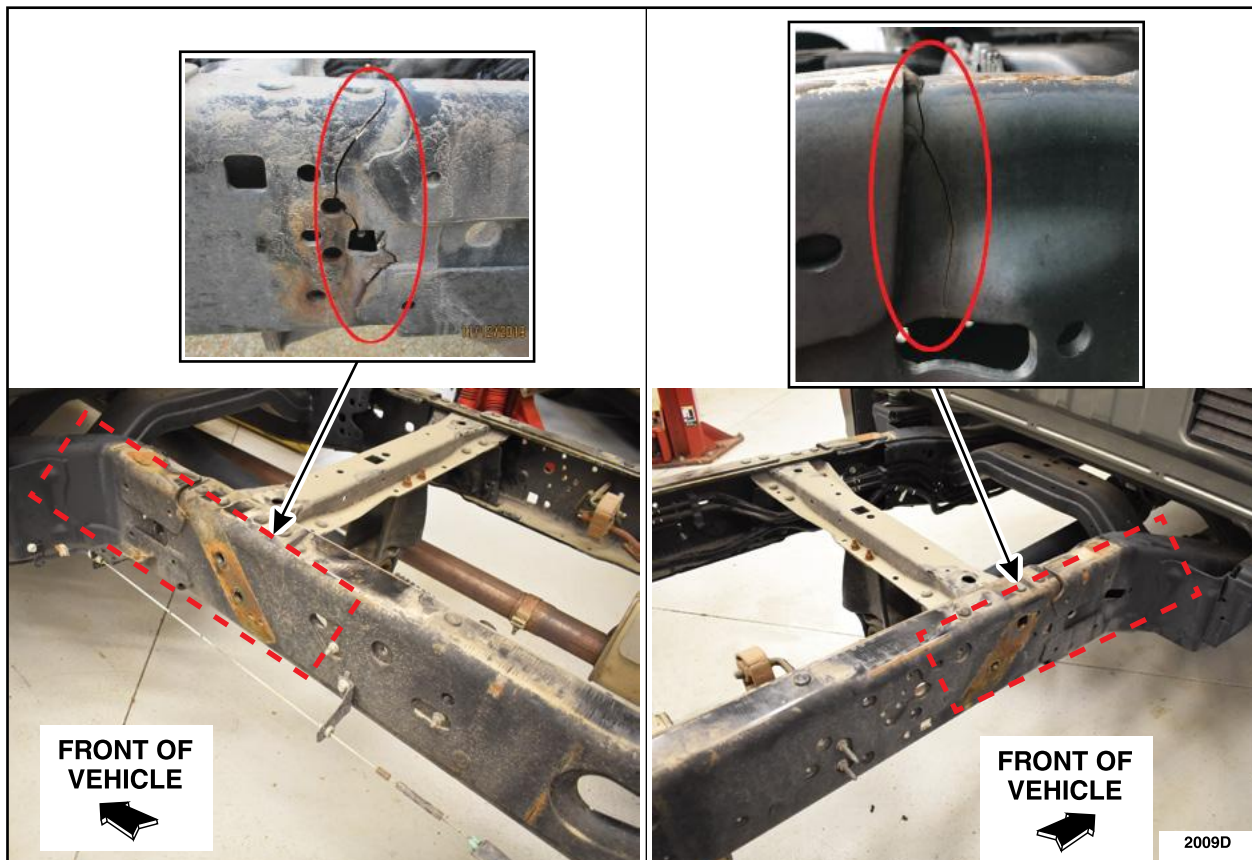

FIGURE 1
1. Identify and inspect the areas where the frame rail may exhibit signs of stress or a crack. Using compressed air, clear any debris that may be on the frame rails in the area of red dashed box. See Figure 1.